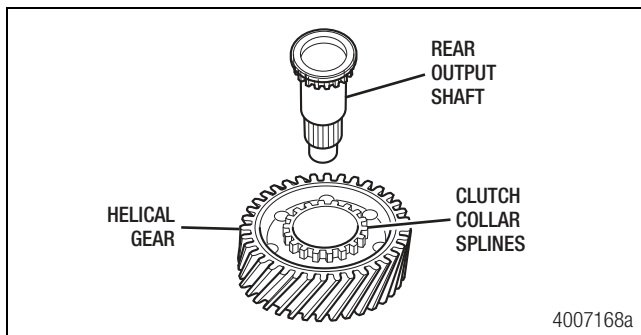

Figure 7.12
- Align the internal splines of the high range helical gear with the shaft splines and install the gear onto the shaft. Ensure the clutch collar gears are facing UP. Figure 7.12.